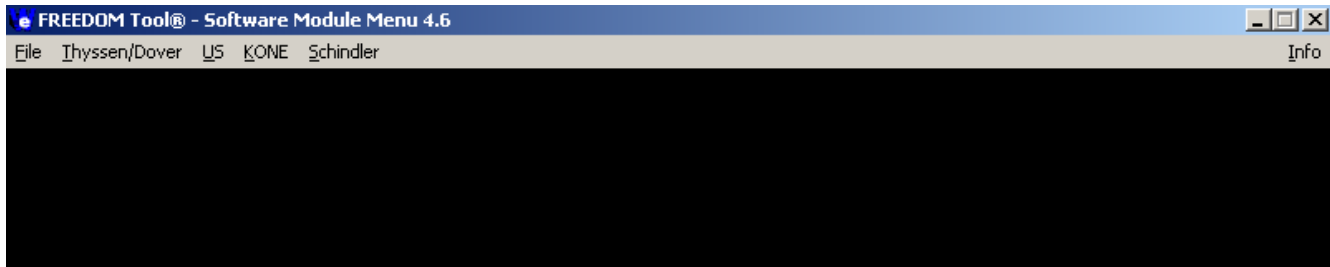

Figure 15
3. Double clicking the **FREEDOM** Tool Icon will run the main FREEDOM Tool Application software. This software allows the user to select the various FREEDOMWare modules that WORLD electronics has available. Refer to Figure 15.